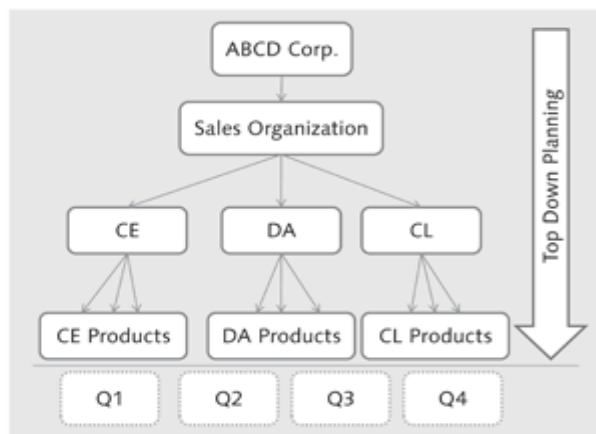

Figure 12.3 ABCD Corp. Planning Scenario
We've used a simple sales planning scenario within ABCD Corp. to illustrate different features of SAP NetWeaver BW Integrated Planning. In this company, sales planning is an annual cycle for all of the three sales organizations: 1000 (APAC), 2000 (Europe), and 3000 (North America). Each sales organization plans for the sales figures of three different divisions or product ranges: Consumer Electronics (CE), Daily Appliances (DA), and Consumer Lifestyle Appliances (CL). This is a high-level plan for the organization, and the high-level values for each of the product ranges are transferred to different products belonging to them; each sales organization has a product range manager who is responsible for planning the sales of each product under his assigned product range. The plan for a year (January to December) is done by quarter; so there are four planning periods: quarter 1 (Q1), quarter 2 (Q2), quarter 3 (Q3), and quarter 4 (Q4). Figure 12.3 is a graphical representation of this scenario.